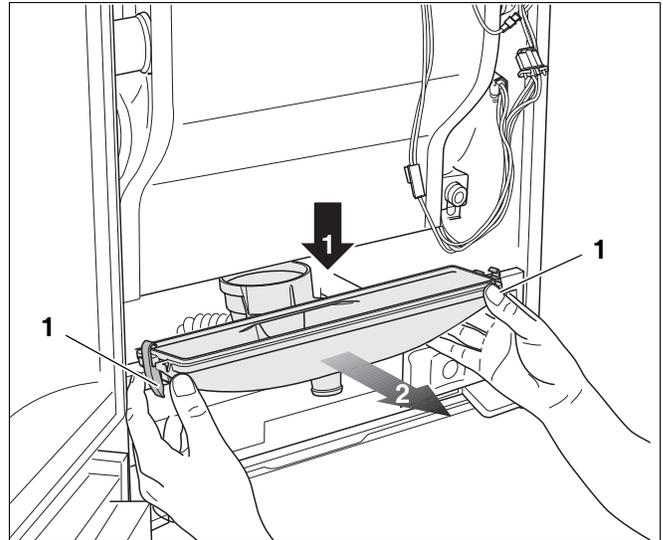

Fig. 92 Removing the condensate collector
- Open the 2 clamps on the right and left at the bottom of the condensate collector (fig. 92, pos. 1).
- Pull the condensate collector down (fig. 92, step 1) and remove it by pulling it towards you (fig. 92, step 2).